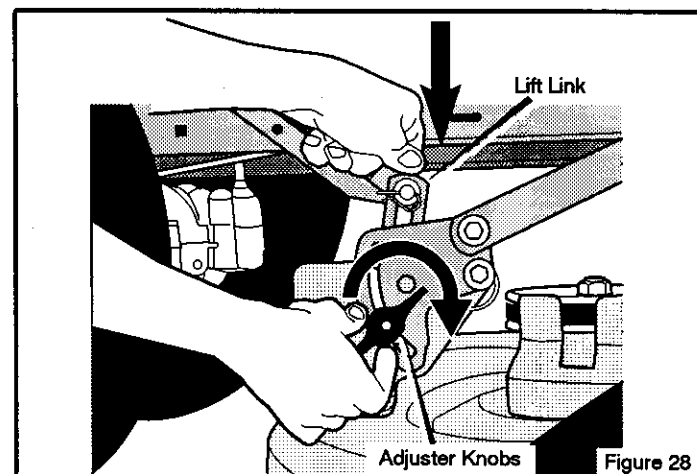

Figure 28
6. Loosen the left and right adjuster knobs (Figure 28). Push down on each side of the mower housing. Make sure both sides of the mower housing are setting on a flat surface. Also, make sure the lift links are loose and can easily move up or down.
7. Push down on the lift links and tighten the left and right adjuster knobs (Figure 28). Make sure the adjuster knobs are tight. If necessary, use a wrench to tighten the adjuster knobs.